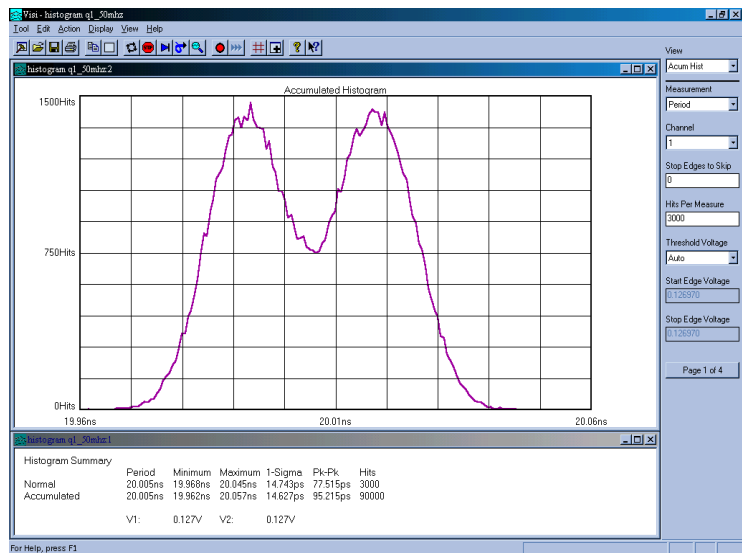
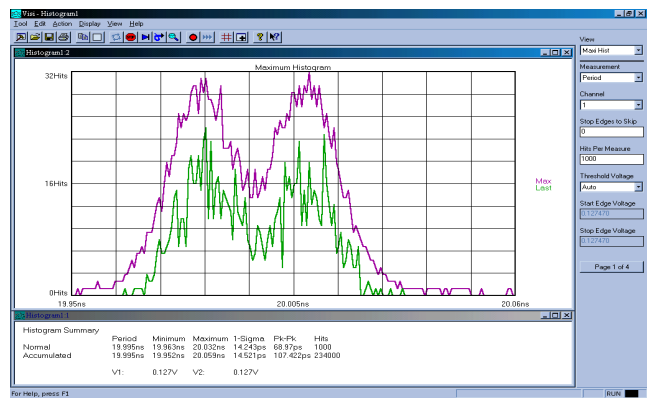
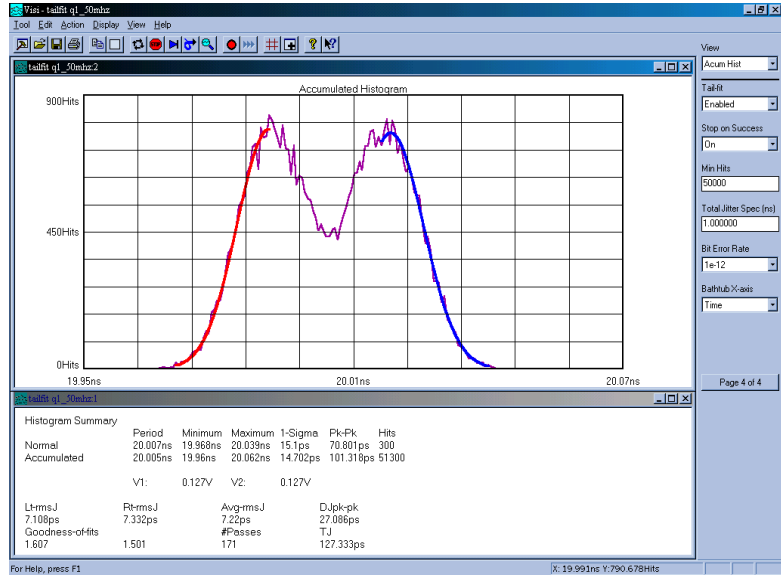

Figure 2. Histogram without TailFit™
Figure 3. Histogram using Maxi View
Figure 5. Histogram with TailFit™ enabled
Any feature, which makes the distribution deviate from a perfect Gaussian distribution, is evidence of deterministic jitter (DJ). Therefore, in the presence of DJ, the 1σ value cannot be used as the true RJ value. If the histogram distribution is multimodal, as in Figure 2, the 1-Sigma value does not accurately reflect the random jitter component. Additionally, the peak-to-peak value does not offer valuable information. It too is a combination of both the RJ and DJ components.
The *Propagation Delay & Skew* tool, as with the *Histogram* tool, produces four different views: Accum, Max, Bathtub and Summary. The “Accum” view (Figure 2) puts all measurements from multiple acquisitions into one histogram. The “Max” view (Figure 3.) is useful to see low frequency or low probability events as outliers. Rather than auto-scaling all measurements into one histogram, the most recent histogram is shown in addition to the maximum extents of all previous histograms. Period drift or wander can be seen in this view. The “Bathtub” view, described later in this document, illustrates long-term reliability of the measurements, and “Summary” is a text view of all pertinent information.
Both Figures 3 and 5 have about the same 1-sigma and Pk-Pk values, but Figure 5 separates the jitter into its individual components. A DJ value is now displayed in the summary window. RJ is displayed as Left side (Lt-rmsJ), Right side (Rt-rmsJ), and Average (Avg-rmsJ), which can be used if the left and right RJ's are different. Note that the 1-sigma value is larger than the Avg-rmsJ, which represents the true random component. A Total Jitter (TJ) value is now present in the summary window; it is derived from the bathtub curve below.